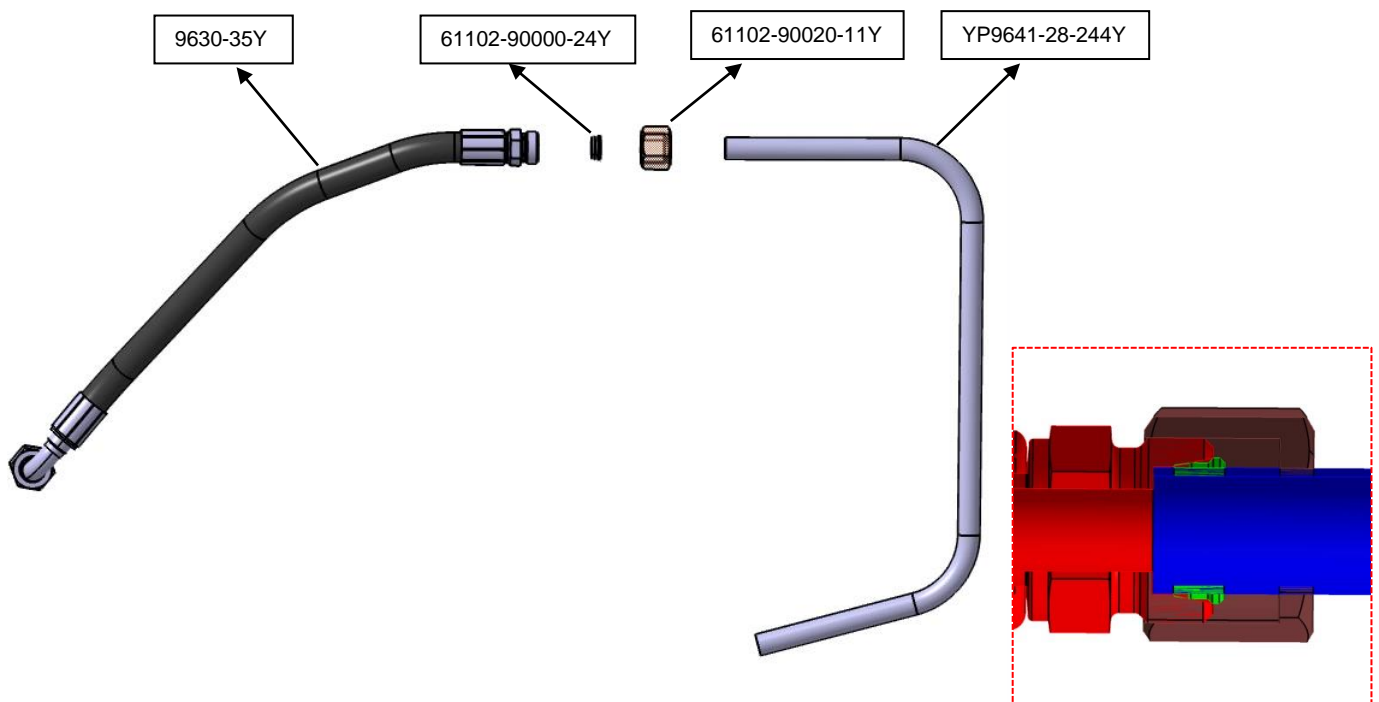

Figure-6
- Mount the 9630-35Y numbered hose and YP9641-28-244Y numbered pipe with using 61102-90000-24Y and 61102-90020-11Y as showed in the **Figure-6**. (Look at the Note-1 in page 11 for the tightening procedure.)